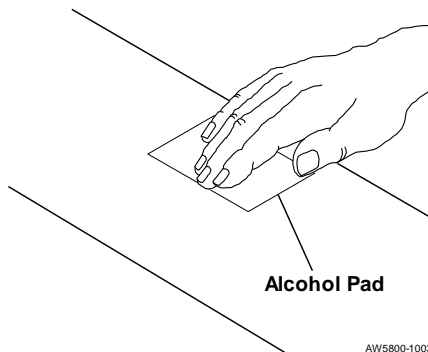

Figure 2. Cleaning Trunnion Tube with Alcohol Wipes
- B. Using chalk or permanent marker, mark the top of the trunnion tube 2-3/8 in. (60.32 mm) on both sides of the center mark. The overall measurement is 4-3/4 in. (120.60 mm). Clean the entire marked-off area using two (2) of the supplied alcohol pads (P/N 350-0035-000). (P/N: 350-0035-000. See Figure 2.